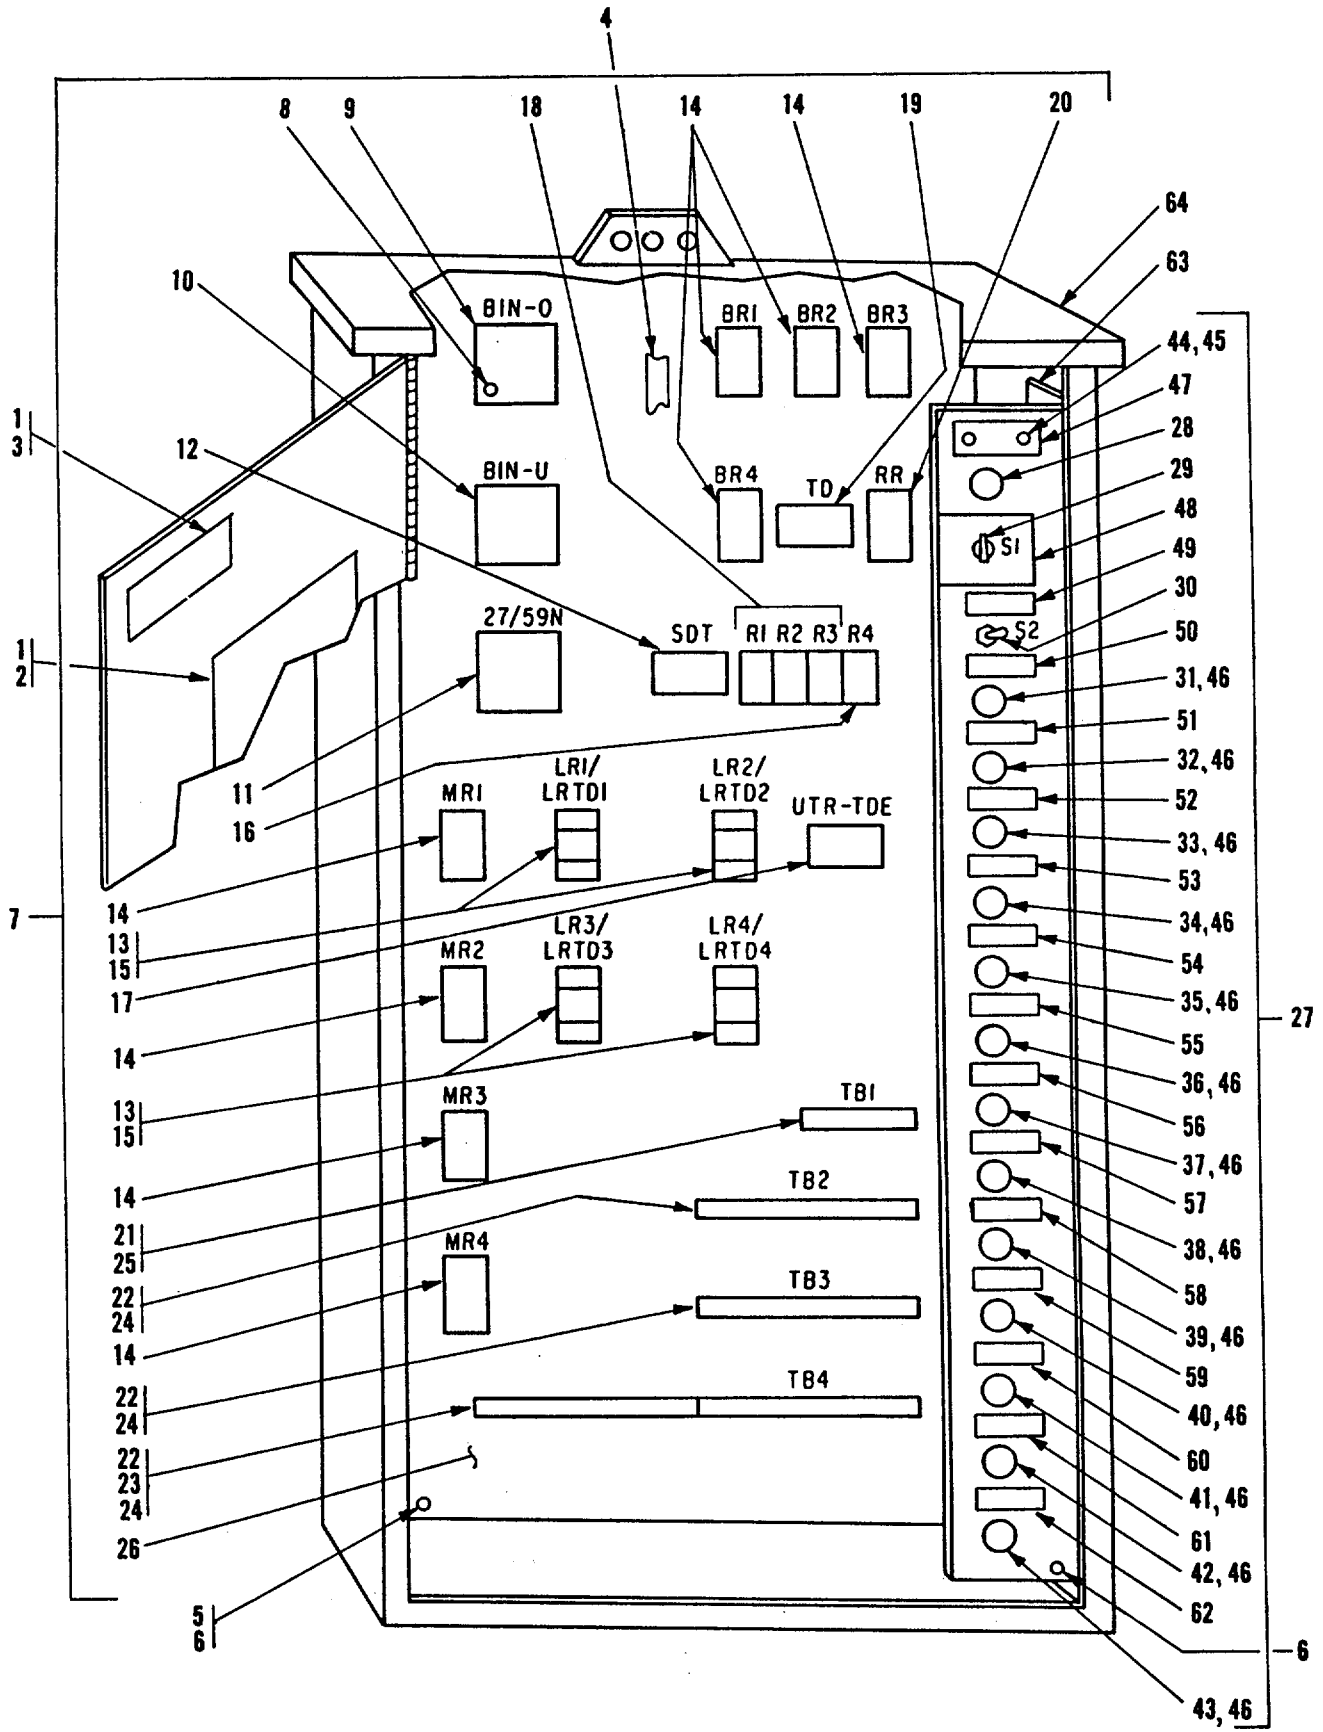

Figure 15-9. Automatic Control Module
15-16. UNDER/OVERVOLTAGE DEVICE. There is one under/over voltage device. The device is preset for a ± 10 percent deviation in the 120V AC bus sensing power. The device is adjustable within the range specified in the tabulated data in Chapter 1 of the Operator and Organizational Maintenance manual. Trip settings are made by removing protective plastic caps on front of the device and turning adjustment screws beneath caps. A clockwise rotation of adjustment screw will increase trip point. Figure 15-9 shows component layout of Automatic Control Module.
LEGEND FOR FIGURE 15-9
(1) Under/over voltage relay (11, figure 15-9)
Under/overvoltage relay (11, figure 15-9) is removed as follows:
15-17. UNDERFREQUENCY RELAY. (10, figure 15-9). The device is adjustable within the range specified in the tabulated data in Chapter 1 of the Operator and Organizational Maintenance manual. Test numbers given in the procedures below are nominal. Trip setting is
(5) Decrease frequency generator frequency to 58.2 Hz. With ohmmeter connected between terminals 5 and 6, relay should trip at 58.2 Hz (57.7 to 58.7 Hz), at which time ohmmeter will no longer show continuity.
(6) Turn adjustment screw clockwise to raise trip point.
b. Replacement. The underfrequency relay (10, figure 15-9) is removed and replaced as follows:
- (1) Disconnect and tag wires connected to the underfrequency terminal board.
- (2) Remove four screws and washers. Remove device (10) from panel (7).
- (3) Replace underfrequency relay (10) by attaching to panel (7) with four screws
15-18. OVERFREQUENCY RELAY. The overfrequency relay (9, figure 15-9) is adjustable within the range specified in the tabulated data in Chapter 1 of the Operator and Organizational Maintenance manual. Trip setting is adjusted with the adjustment screw on the device. Test the device as follows: a. Test.
15-19. TIME DELAY RELAY. The time delay relay (19, figure 15-9) is a "delay on drop-out" type relay, set for 1.5-15 seconds delay. The relay is adjustable within the range specified in the tabulated data in Chapter 1 of the Operator and Organizational Maintenance manual. Timing is adjusted with the calibrated dial on the relay. Test and replace relay as follows:
b. Replacement. Remove and replace time delay relay (19) as follows:
- (1) Disconnect and tag wires connected to the time delay relay.
- (2) Remove four screws and washers. Remove relay from panel (7).
- (3) Replace relay (19) by attaching to panel (7) with four screws and washers. Connect wires and remove tags.
15-20. RELAYS (BR1-BR4, MR1-MR4, RR). BR1-BR4, MR1-MR4 (14, figure 15-9) and RR (20) relays are mounted on panel (7).
- (2) Check that normally open contacts close and normally closed contacts open relay coil is energized, by verifying ohmmeter indication of 'zero' with contacts closed and 'infinity' with contacts open.
b. Replacement. Relays (14 and 20, figure 15-9) are removed and replaced as follows:
- (1) Disconnect and tag wires connected to relays.
- (2) Remove two screws and two washers for each relay, remove relay from panel (7).
- (3) Replace relay (14 or 20) by attaching the panel (7) with two screws and washers. Connect wires and remove tags.
15-21. RELAYS (LR1-LR4, LRTD1-LRTD4). Relays LR1-LR4 (15, figure 15-9) and LRTD1-LRTD4 (13) are mounted on relay panel (7).